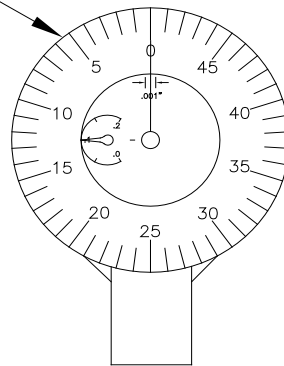

Figure 8-4, Dial Indicator
4. Rotate the dial indicator to set the large needle at (0) as shown in Figure 8-4.